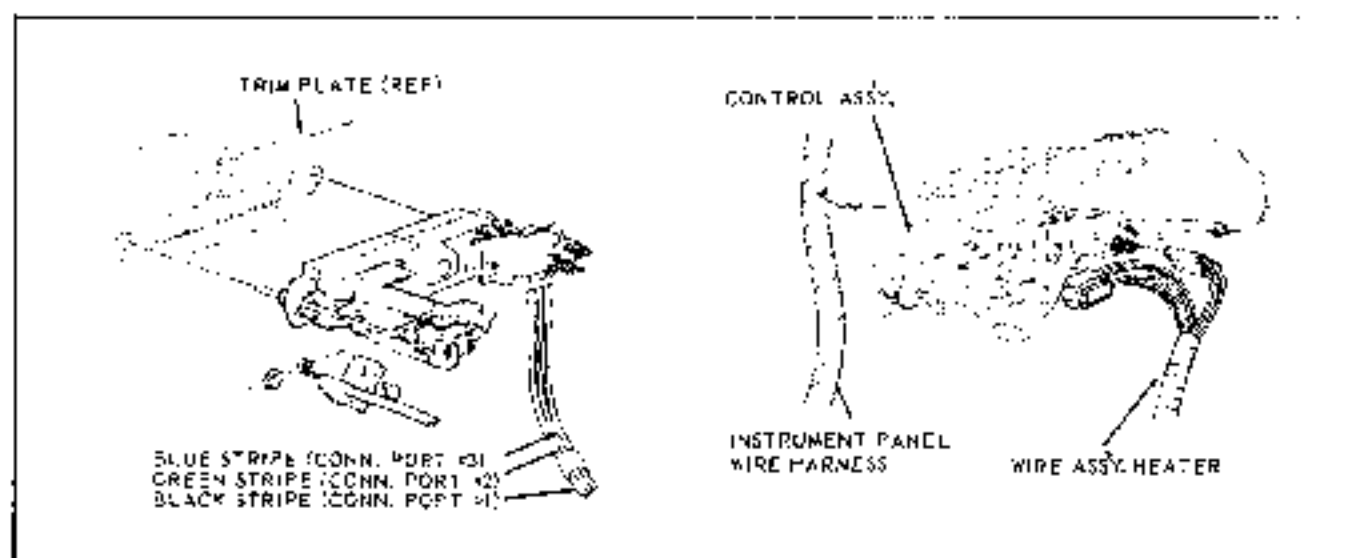

Fig. 1-4 Control Panel Connection—Portiac
SELECT AND VACUUM VALVE SWITCH REPLACEMENT (Fig. 1-4)
2. Disconnect temperature control cable at the heater control switch (Fig. 1-4).